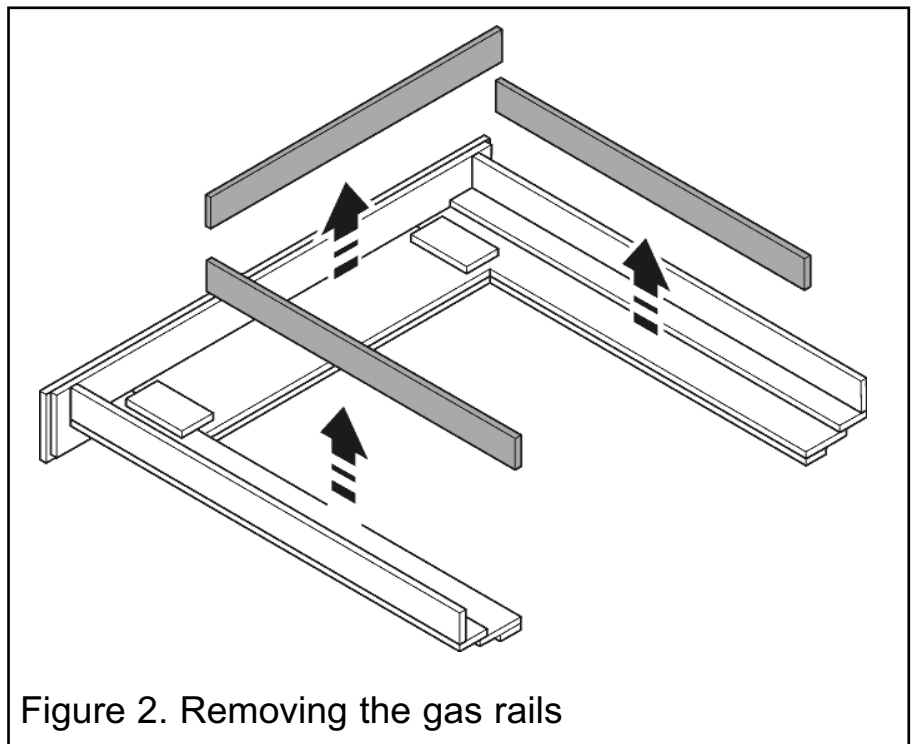

Figure 2. Removing the gas rails
- For installations with electric heaters unscrew and remove the gas rails as in figure 2.